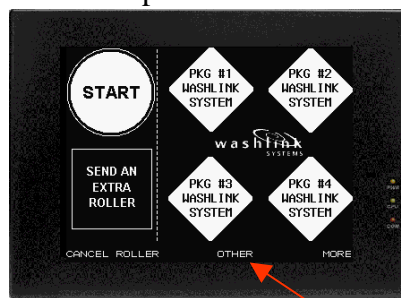

Fig 1
- 1 Press "Other" on Main Screen (fig 1&2)